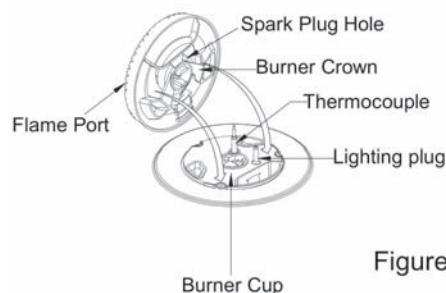

Figure 2
- To do this, ensure that the 2 ribs on either side of the spark plug hole are positioned into the 2 slots on the burner cup. (See figure 2).
- Open the lever A completely on the left and right hinges (fig.2);
- Gently pull out the inner pane of glass (fig.2)